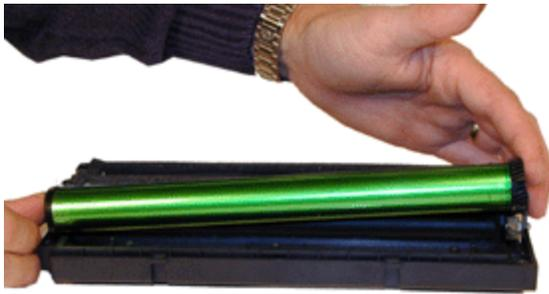

FIGURE 20
19. Install the new drum in place. See Figure 20